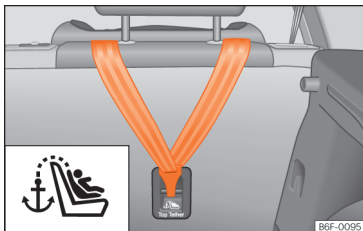

Fig. 39 Rear part of the rear seats: securing rings for the Top Tether belt.
Child seats with a Top Tether system are fitted with an additional belt for fastening to an anchor point in the vehicle. This anchor point is located on the rear of the rear seat backrest (identified with the symbol ) and provides better retention >>> **Fig. 39**.
- Slide the belt and secure it properly with the anchor on the rear seat backrest >>> **Fig. 39**.